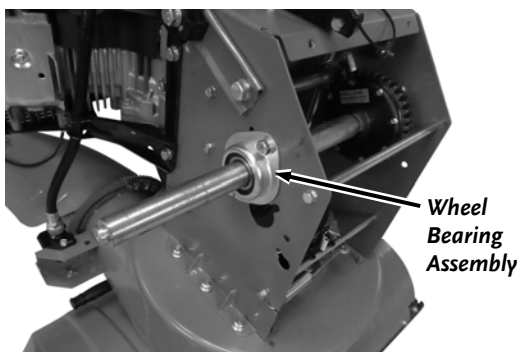

Figure 73
8. Remove the two Bolts, Lock Washers, Flat Washers, and Locknuts that secure the left side Wheel Bearing Assembly using two 13mm Wrenches and remove the Bearing Assembly from the Axle (**Figure 73**).
9. Install the left side Wheel Bearing Assembly (**Figure 73**).